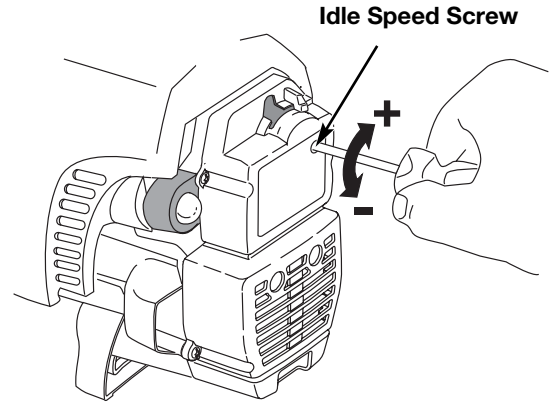

Fig. 23
The idle speed of the engine is adjustable through the air filter/muffler cover (Fig. 23).
2. Move the throttle control to the idle position and let the engine idle. If the engine stops, insert a small phillips or flat blade screwdriver into the hole in the air filter/muffler cover (Fig. 23). Turn the idle speed adjuster in, clockwise, 1/8 of a turn at a time (as needed) until the engine idles smoothly.